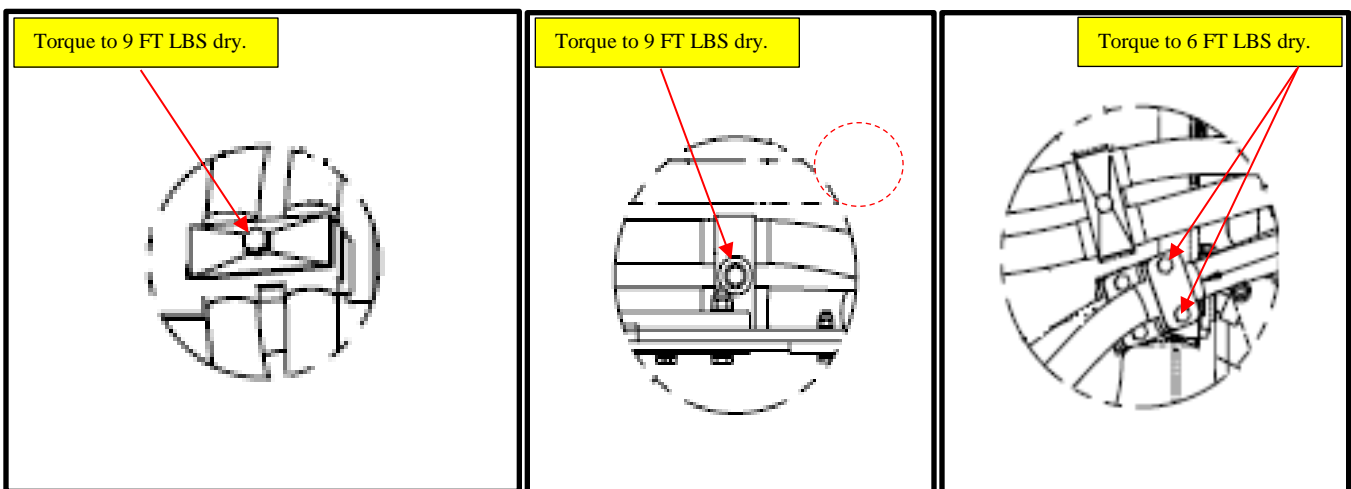

Figure 5: Clamp torque location reference.
17. Reinstall any clamps removed when connecting the new cables. Torque the clamp hardware based on your application. See Figure 5.